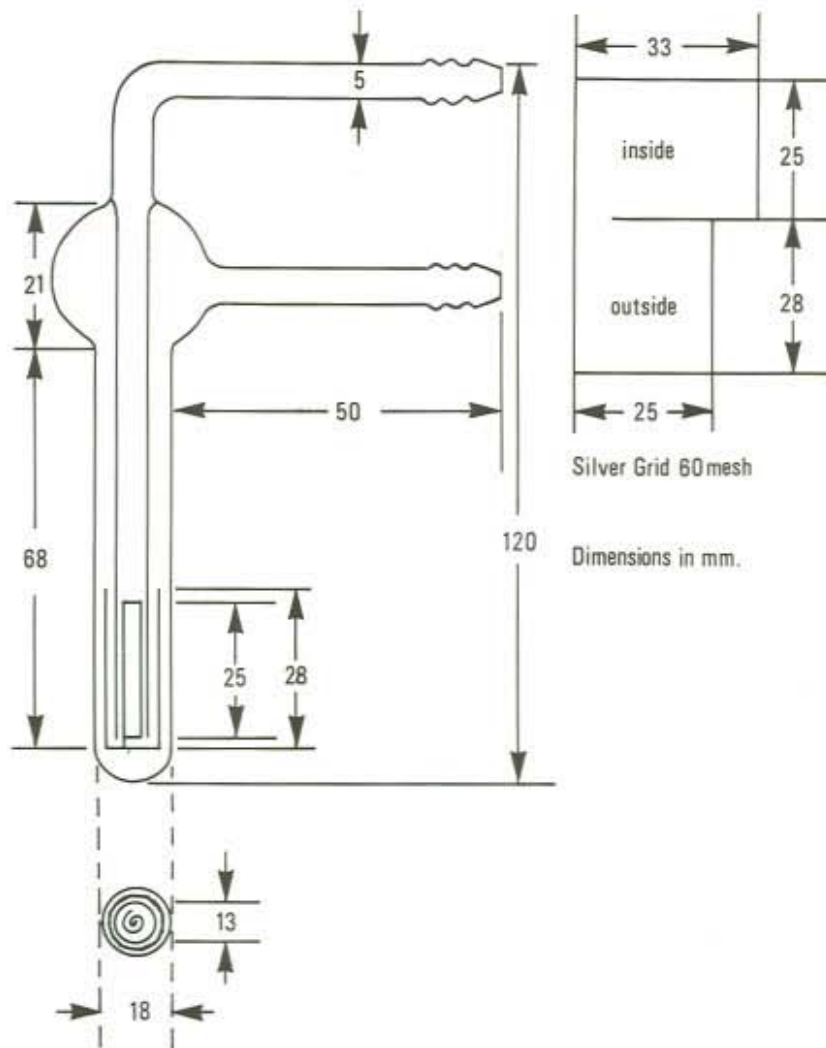

Fig. 1
4.4 Silver absorber, see Figure 1. A piece of silver gauze, forming a double cylinder, mounted in a finger condenser of borosilicate glass or quartz (Page 168).